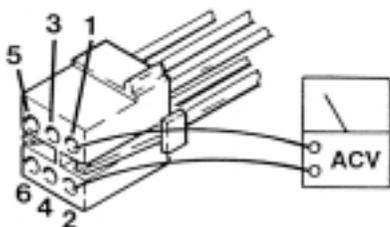

Figure 6-3. Connector CN12 Test
3. Use an AC voltmeter capable of measuring 120 VAC and measure the voltage between pins 1 and 2 (black and white wires) located in connector CN12. See figure 6-3. You should receive line voltage 120 VAC.